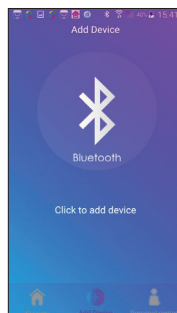

Fig. 2
**Step 4.** Select the access mode and enter wi-fi and Bluetooth® info as needed (fig. 2). The unit may beep and the “WIFI” light should start blinking; after which, the app should begin pairing.